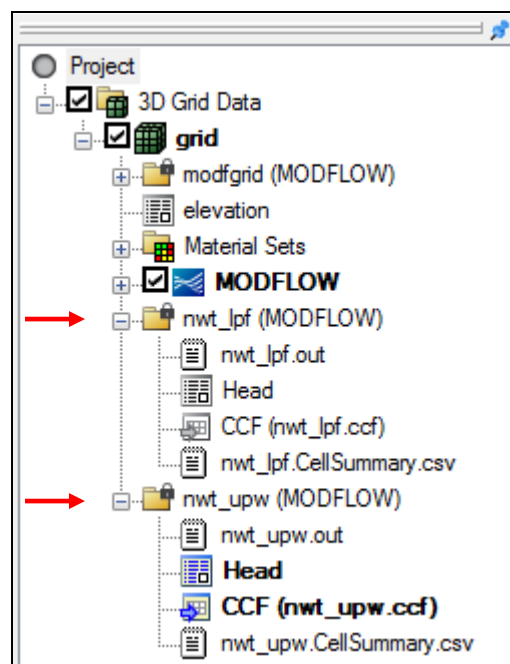

Figure 3 Project Explorer showing both solutions
GMS imports the solution and contours the head dataset. Notice the head contours are slightly different (Figure 3). The UPW and NWT packages give almost the same answer as the LPF and SIP1 packages when there are no cell wetting and drying conditions.
4. Compare the solution generated with the LPF package and the one generated with the UPW package by clicking back and forth on the two solutions ( nwt\_lpf and  nwt\_upw) in the Project Explorer (red arrows in Figure 3). It may be necessary to expand the “ 3D Grid Data” folder and “ grid” item.